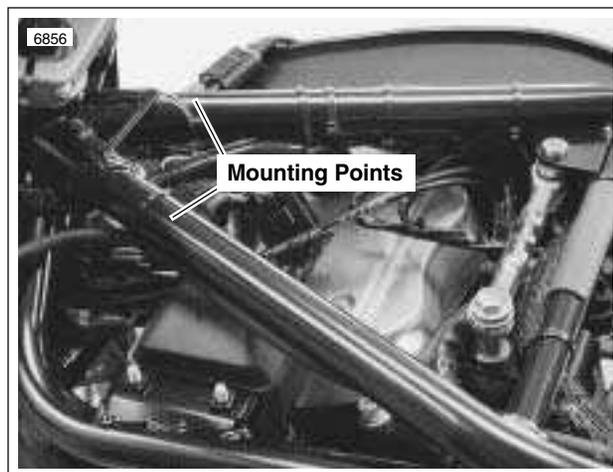

Figure 1-37. Attaching Straps
4. See Figure 1-37. Attach lifting straps to frame tubes behind steering neck. Raise front wheel off floor using a floor hoist and lifting straps.